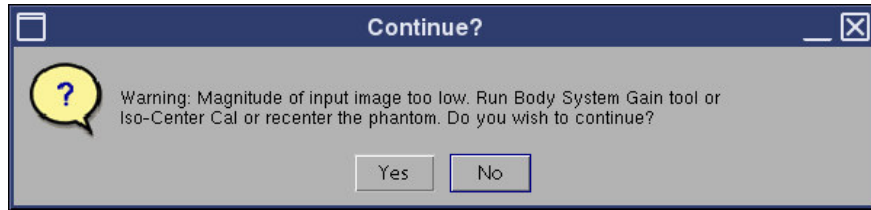

Figure 8: Error message related to wrong selection of the cavity. Make sure the “Current coil” is selected corresponding the the placement of the phantom.
- Incorrect positioning/placement of the phantom (cf. Figure 8)